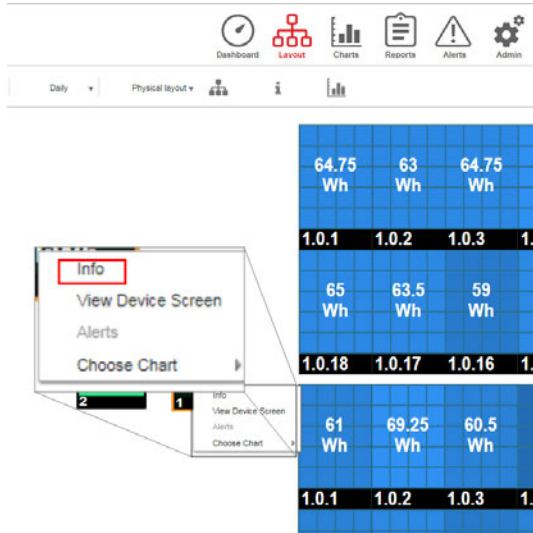

Figure 37: Inverter menu
2. Right-click the inverter and select **Info** from the menu (*Figure 37*). The inverter details window is displayed (*Figure 38*).